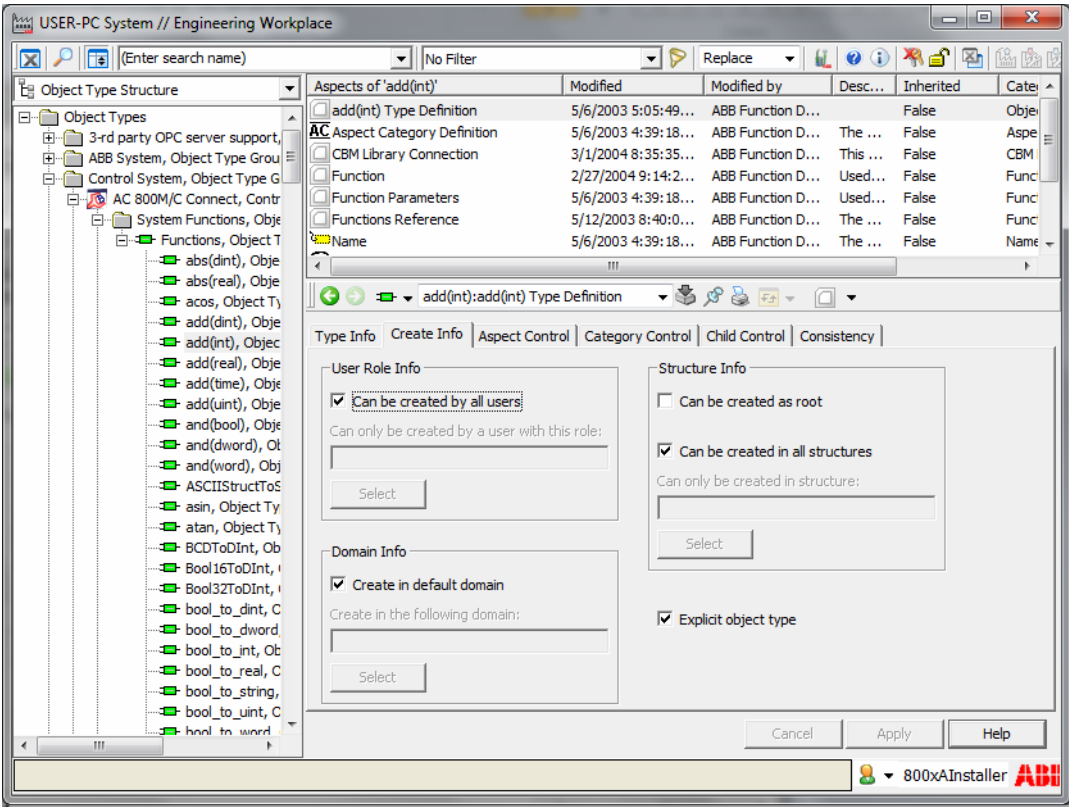

Figure 29. Create/Structure Info for Instantiation Kind Symbol Object
- To define instantiation kind symbol object, clear the **Structure Info** options and select **Explicit Object Type**. See Figure 29.